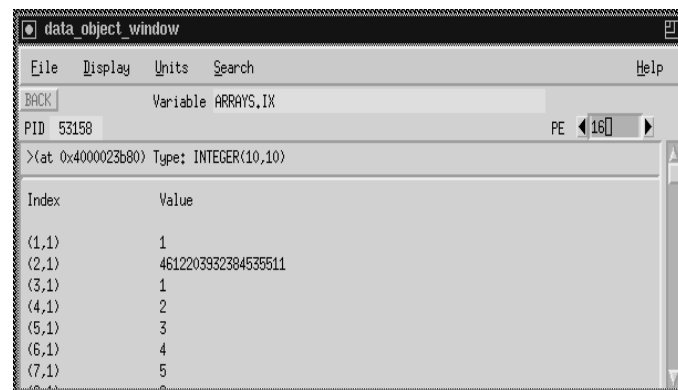

Figure 3: Data object window with PE input box
Cray T3D private data is replicated on all processors. Each executing processor owns its own copy of the data object. In TotalView 2.0, Cray T3D private data values across all processors can be displayed from one data window. The data window displays an input box and a process element (PE) number. The user simply enters a valid PE number to view the same private data object for that PE. Figure 3 shows an example of the PE input box. This interface is also available on the data array browser and can be used to pan private array data.